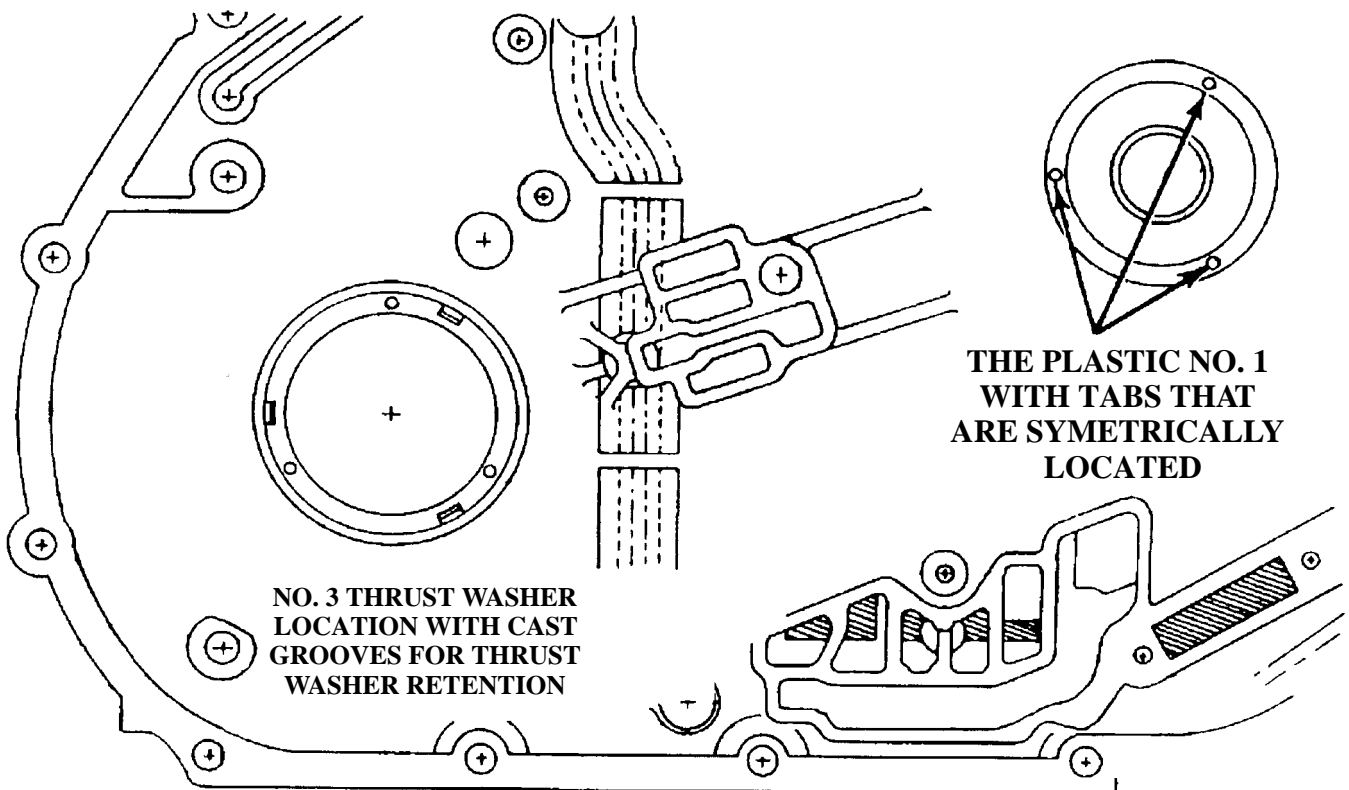

Figure 3
(3) **CHAIN COVER** - New design will accept either the previous bronze No. 3 thrust washer with the tangs on outside diameter, or the new design Black plastic No. 3 thrust washer with the 3 symmetrically located tabs, as shown in Figure 3.
The new design Chain Cover will accept on& the new design No. 1 thrust washer with 3 symmetrically located tabs, as shown in Figure 3.